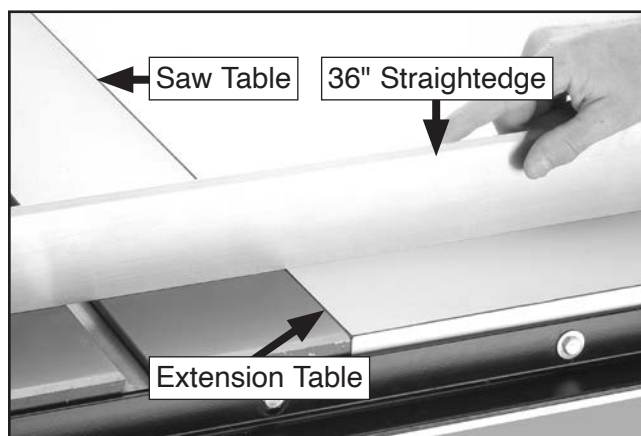

Figure 27. Verifying extension table flushness.
14. Use a 36" straightedge to verify extension table is flush with saw table and is even along its entire length (see **Figure 27**), then fully tighten all fasteners. Rotate adjustable feet to make small adjustments to table height.